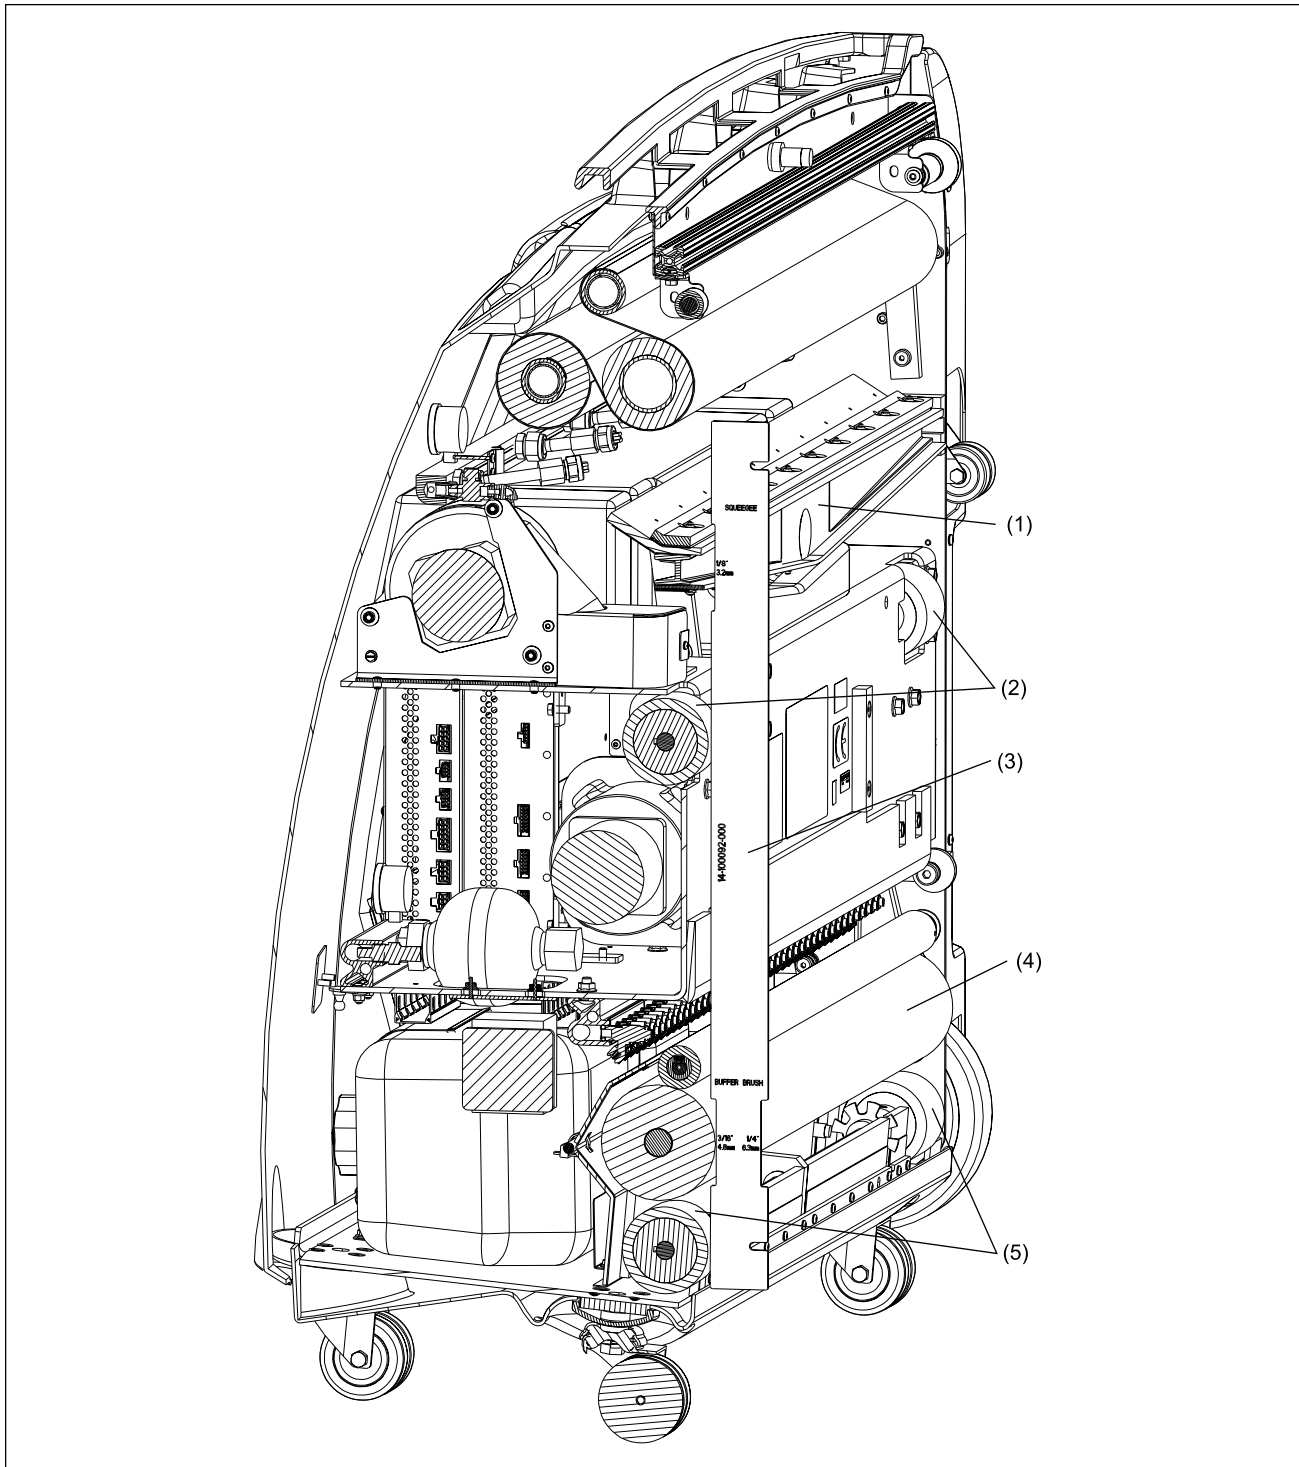

Figure 5-18. Adjustment Tool - Section View
(1) FOUR MOUNTING BOLTS
6. Place adjustment tool (mounted inside the lane machine behind the electronics enclosure) across the rear wheel and drive wheel on the 7-pin side of the machine. Refer to Figure 5-18.